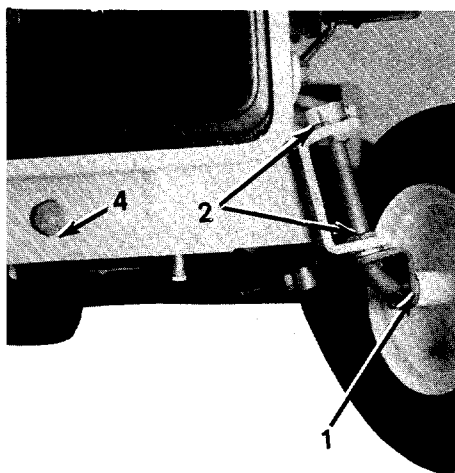

**Figure 7.**
2. Using the height of cut stop, set the cutting height lever in the desired position. (See figure 7.)